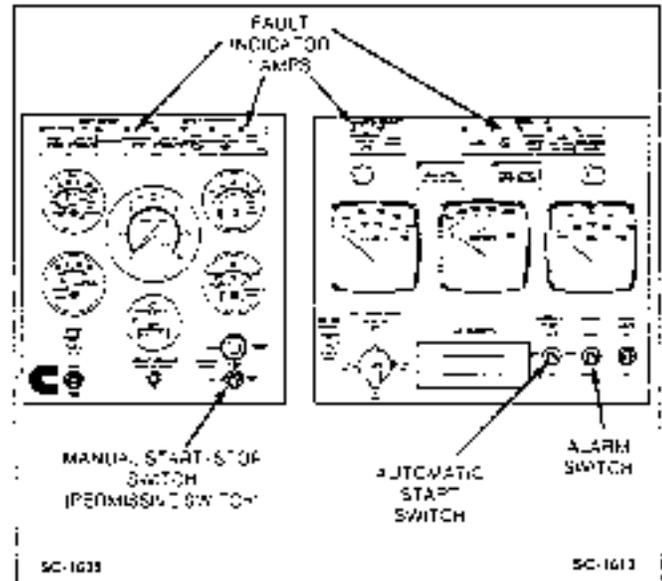

FIGURE 3-1 GENERATOR SET CONTROL PANEL
- Silence Alarm Horn (if sounding) by placing the Alarm switch to SILENCE position (see Figure 3-1).
- Review all fault indicator lamps on control panels (see Figure 3-1).
- Stop generator set, if not already shut down. Place Manual and Automatic Start switches to OFF position (see Figure 3-1).